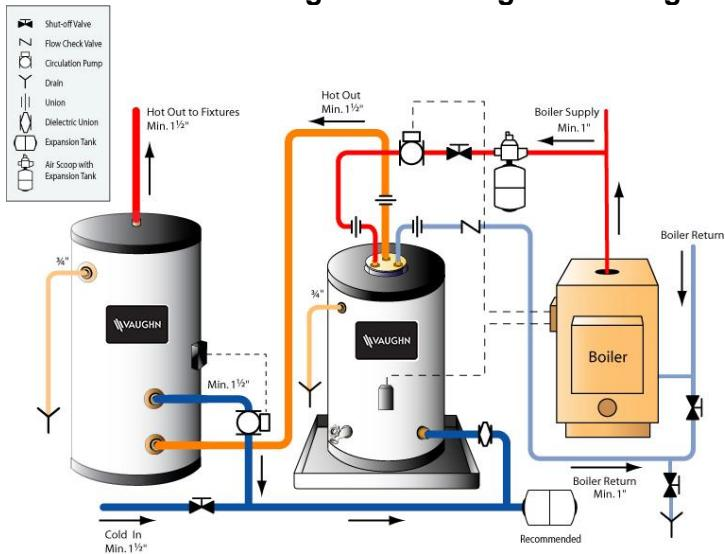

FIGURE 5 SEALING MECHANISM
- ❑ **WARNING: Plastic O-ring housing must be properly installed. (See FIGURE 5 on page 22) Failure to do this will void the warranty.**
- ❑ **WARNING: Plastic O-ring housing must be installed properly (See FIGURE 5 on page 22) to prevent corrosive action. Failure to do this will void the warranty. Must use new O-ring if replaced or removed.**